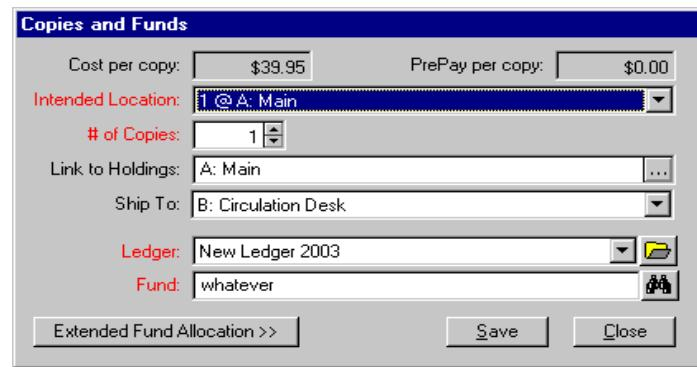

Figure 13-14. Copies and Funds dialog box - ellipsis displayed beside the Link to Holdings field
- The **ellipsis** button beside the **Link to Holdings** field on the **Copies and Funds** dialog box (Figure 13-14). The **Copies and Funds** dialog box can be displayed from the **Copies/Funds** tab of a line item. See Copies/Funds Tab on page 6-48.